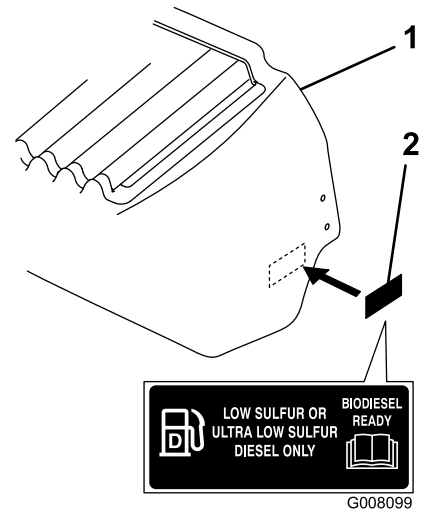

Figure 6
- Install a low sulfur decal on each side of the engine hood. See Figure 6 for the correct position.